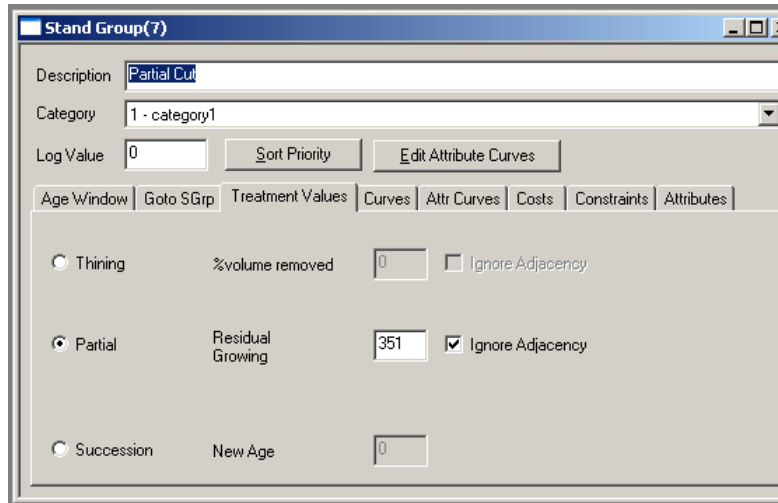

Figure 48: Setting the residual growing stock in a partial cut harvest.
- 8.2.9 Set the *Residual Growing Stock* to 351 m³/ha (figure 48). *Partial Cut* stands may now be harvested so long as a residual growing stock of 351 m³/ha is retained.